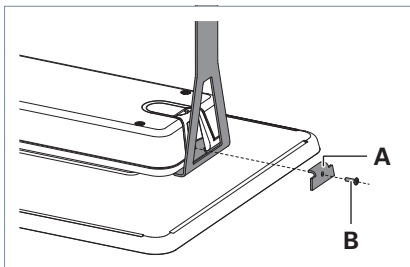

Fig. 5: Screwing the bracket to the ceiling holder.
- ▶ Screw the bracket **A** to the ceiling holder using the screw **B**, see Fig. 5.